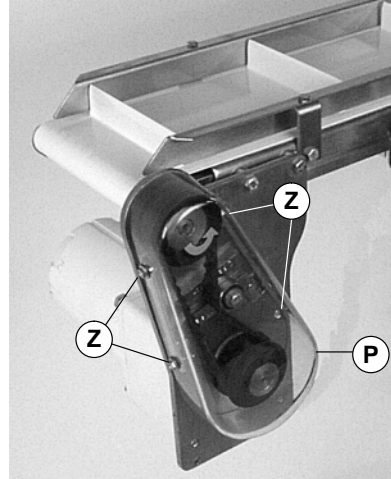

Figure 8
NOTE: Do not over-tighten screws (Z of Figure 8).
- Install cover (P of Figure 8) and tighten four (4) screws (Z) to 4 Nm.